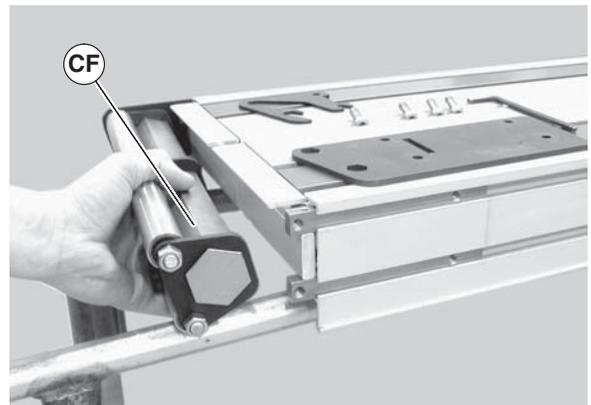

Figure 68
- Slide the transfer tail pulley assembly (Figure 68, item CF) out of the headplate on the opposite side.